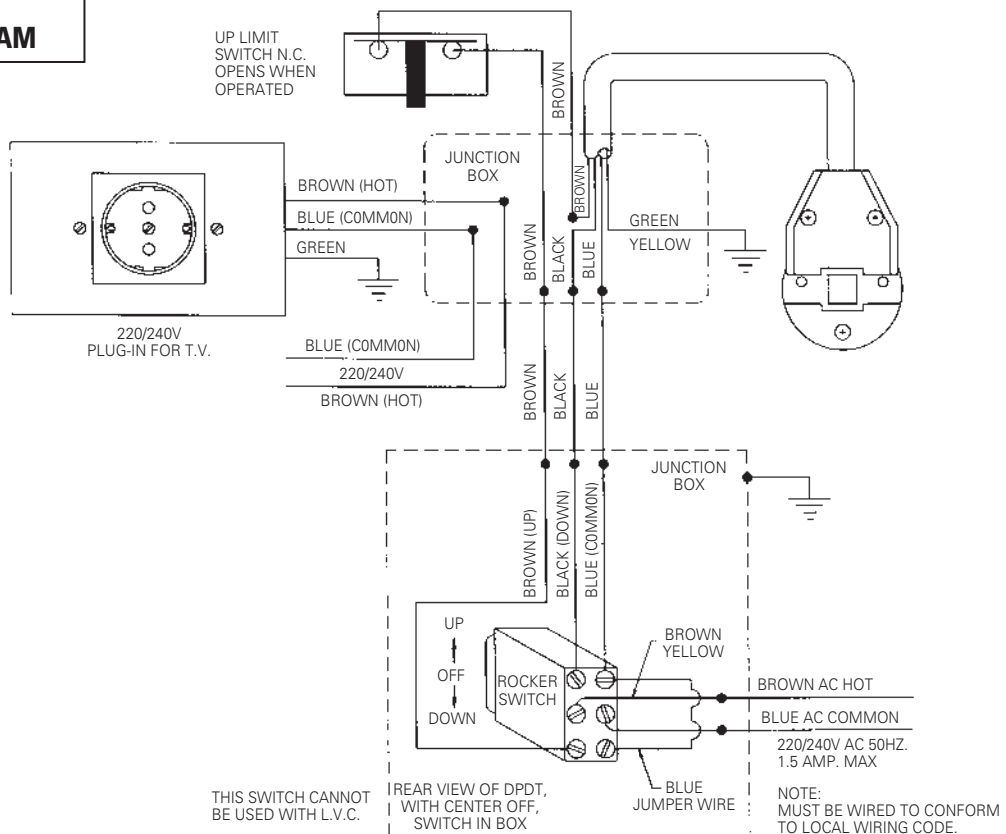

FIGURE 5
1. Install electrical hook up that applies to your unit. Make sure to review your Electrical Installation Checklist and wiring diagram (see figure 5) for either 120 volt switch, 220/240 volt switch, or DRC low voltage control.